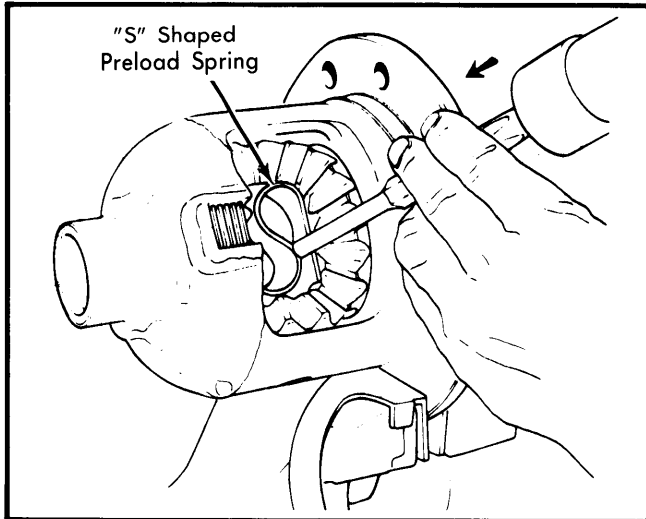

Fig. 3 "S" Shaped Preload Spring Removal
1) Remove and discard 10 ring gear attaching bolts. Tap ring gear off case with plastic hammer or press gear from case. Remove pinion shaft lock bolt and pinion shaft. Using a drift, drive out "S"-shaped preload spring. See Fig. 3.